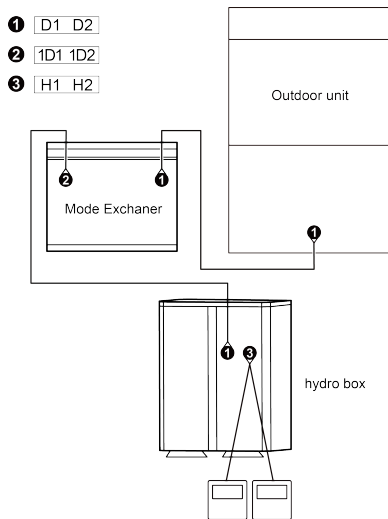

Fig 5.5 Two wired controllers control one hydro box
- 5) Network connection of wired controller and hydro box must be according to one of the four wiring methods as shown in Fig 5.4-5.7. As for the connection method shown in Fig 5.5 and 5.7, there should be only one master wired controller (address is 01) and one slave wired controller (address 02). The quantity of wired controller can't exceed two.